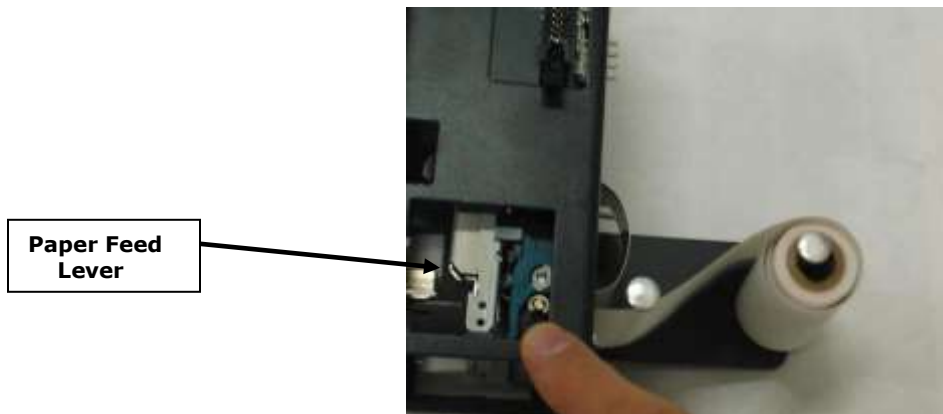

Figure P2: AC7084 Printer – Side View, with Paper
1. If there is paper remaining on the previous roll, it must be removed before proceeding. Move the “Paper Feed Lever” from the DOWN to the UP position (refer to Figure P2), and then pull out the remaining paper from the rear of the printer and discard the roll.
1. If there is paper remaining on the previous roll, it must be removed before proceeding. Move the "Paper Feed Lever" from the DOWN to the UP position (refer to Figure P2), and then pull out the remaining paper from the rear of the printer and discard the roll.